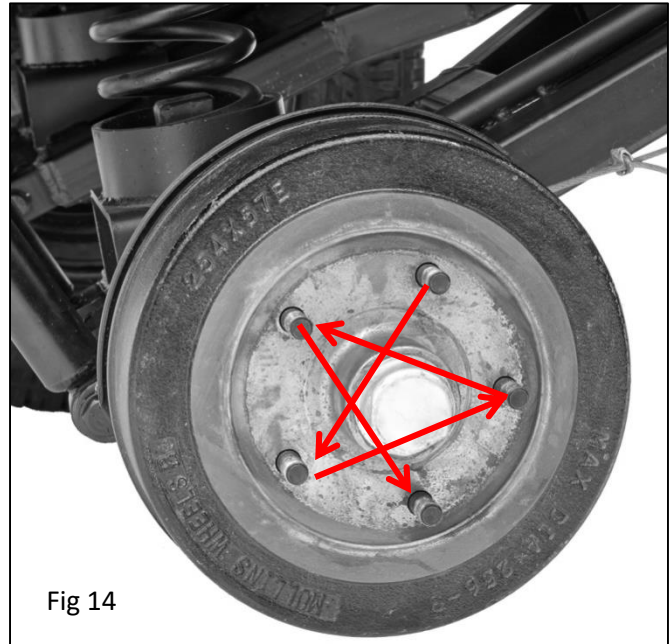

Fig 14
20. Install tires and wheels on to axles. Make sure center caps are inside of the wheels before installing. (only if wheels use push thru cap) you may want to apply anti-seize to the wheel mounting surface to help prevent corrosion and will make the wheel easier to remove when rotating tires, you may also apply a small amount of anti-seize to the lug studs. The trailer kit comes with 60° conical seat lug nuts, make sure your wheels have a compatible seat. Make sure lug nuts have at least ½" of thread engagement. Tighten the lug nuts in a star pattern. Make sure to properly torque the wheels. Then re-torque after the first 25 miles and then each 50 miles till they hold their torque. Always check wheel manufactures torque recommendations/specifications. Do not exceed 95 ft. lb. Lower torque ratings when using anti-seize on the threads, generally about 25% less torque is required when using anti-seize. Generally ½" lug nuts need to be torqued to 85-95 ft. lb. Fig 14.